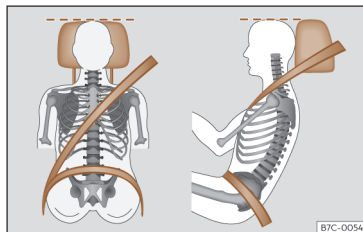

Fig. 18 Correct belt web and headrest positions
- Adjust the head restraint so that its upper edge is, as far as possible, at the same level as the top of your head, as close to eye level as possible¹⁾ >>> page 126. Keep the back of your neck as close as possible to the headrest >>> Fig. 18.
- Adjust the seat lengthwise so that you can press the pedals fully down with your knees slightly bent and there is a distance between the knee area and the instrument cluster of at least 10 cm (4 inches) >>> Fig. 18.